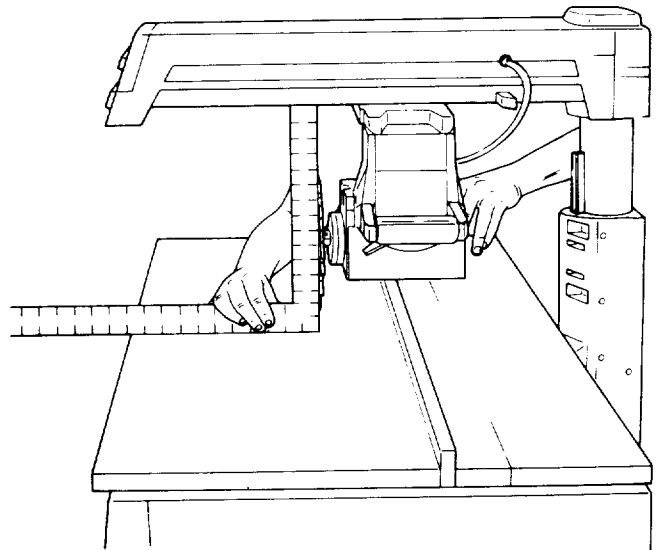

Fig. 93
3. Place the long edge of the framing square on the *table* and the short edge against the *blade* alongside the *arbor shaft*. Make sure the square is against the surface of the *blade* and not on the set of a tooth. (Figure 93)